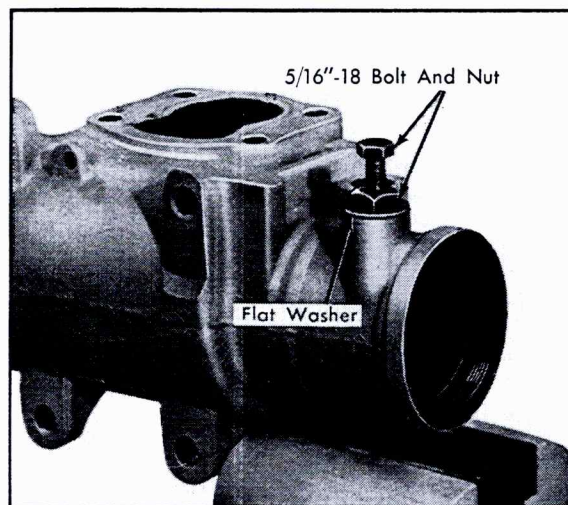

Fig. 9-37 Removing Hose Connector Seat
1. Position gear housing horizontally in vise and clamp lower tab at valve end of gear as shown in Fig. 9-37.
4. Thread a 5/16"-18 bolt with a nut and flat washer into tapped hole, Fig. 9-37.